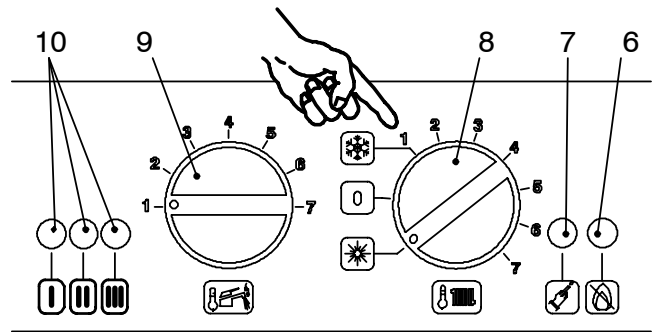
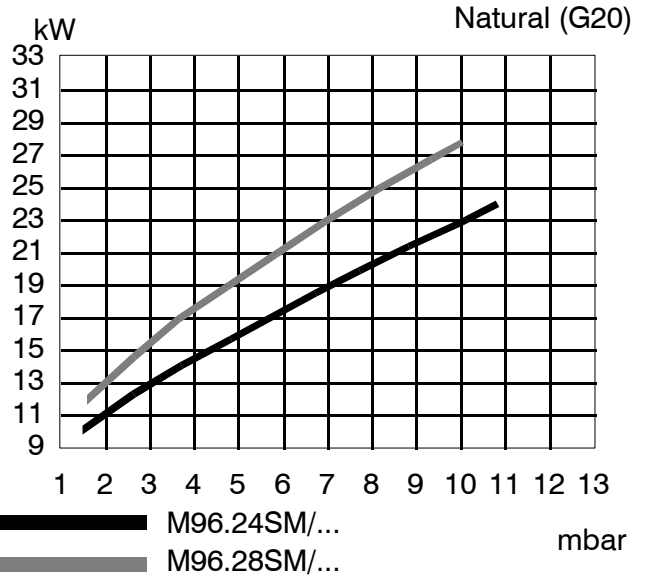
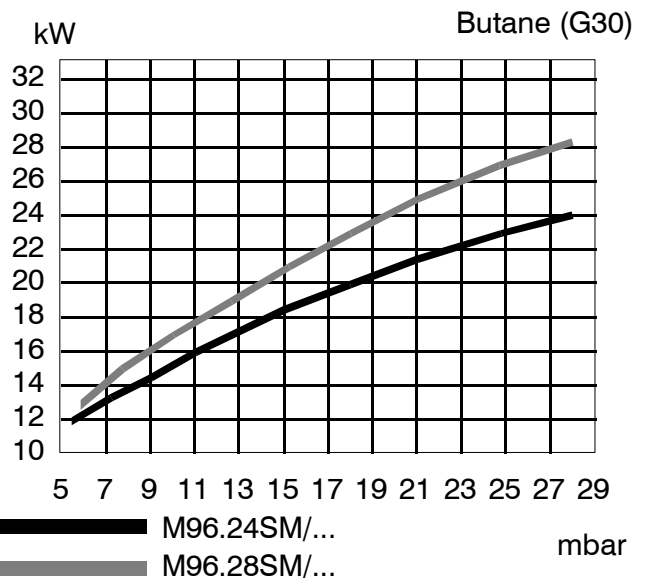
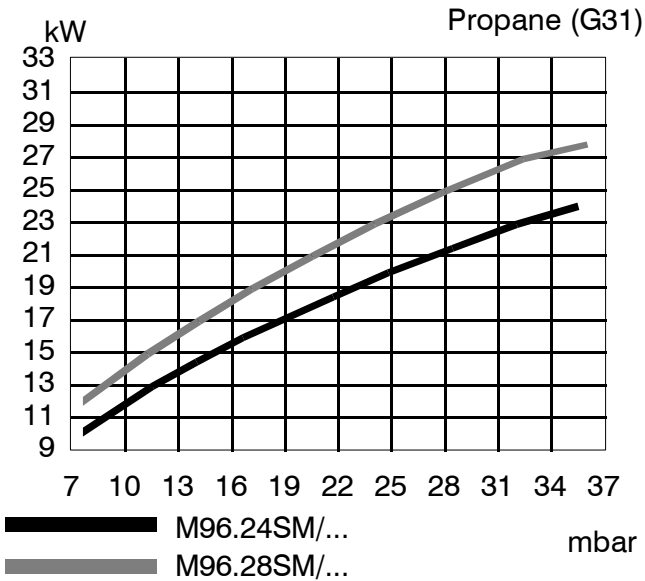

Fig. 7.6
Fig. 7.11
Fig. 7.12
Fig. 7.13
Refer to Fig. 7.11, Fig. 7.12 and Fig. 7.13 (depending on the gas used) and determine the correct burner pressure appertaining to the output required for the central heating requirement.
- 3 Rotate the knob 9 as in Fig. 7.6
- 4 Turn the boiler ON positioning the function selector 8 as indicated in Fig. 7.6 and ensure that the timer selector switch and room thermostat, if fitted, are set to "heat demand".
- 8 Rotate the knob 9 in Fig. 7.6 to obtain the pressure to the burner to meet with the central heating system requirements. Refer to the diagrams shown in Fig. 7.11, Fig. 7.12 or Fig. 7.13